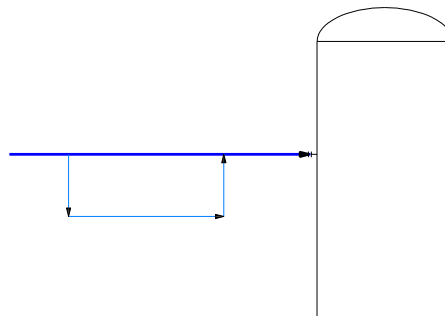

Figure 2-57 Loop created on the previous line
3. Choose **Secondary Line Segment** from the **Lines** tab in the **TOOL PALETTES - P&ID PIP** and create the loop, as shown in Figure 2-57.